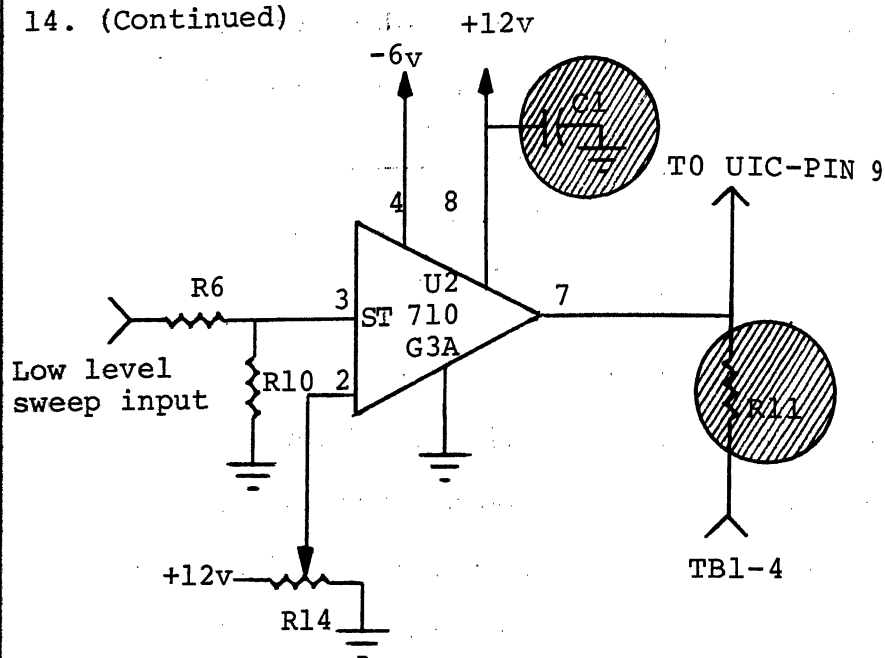

Figure 2
14. Refer to figure 2 on the following page and to figure 5-8 in the MIM. Capacitor C1, identified by a shaded area on figure 2, is part of a decoupling network in the +12 vdc line coming from the ± 12 vdc synchronizer power supply.